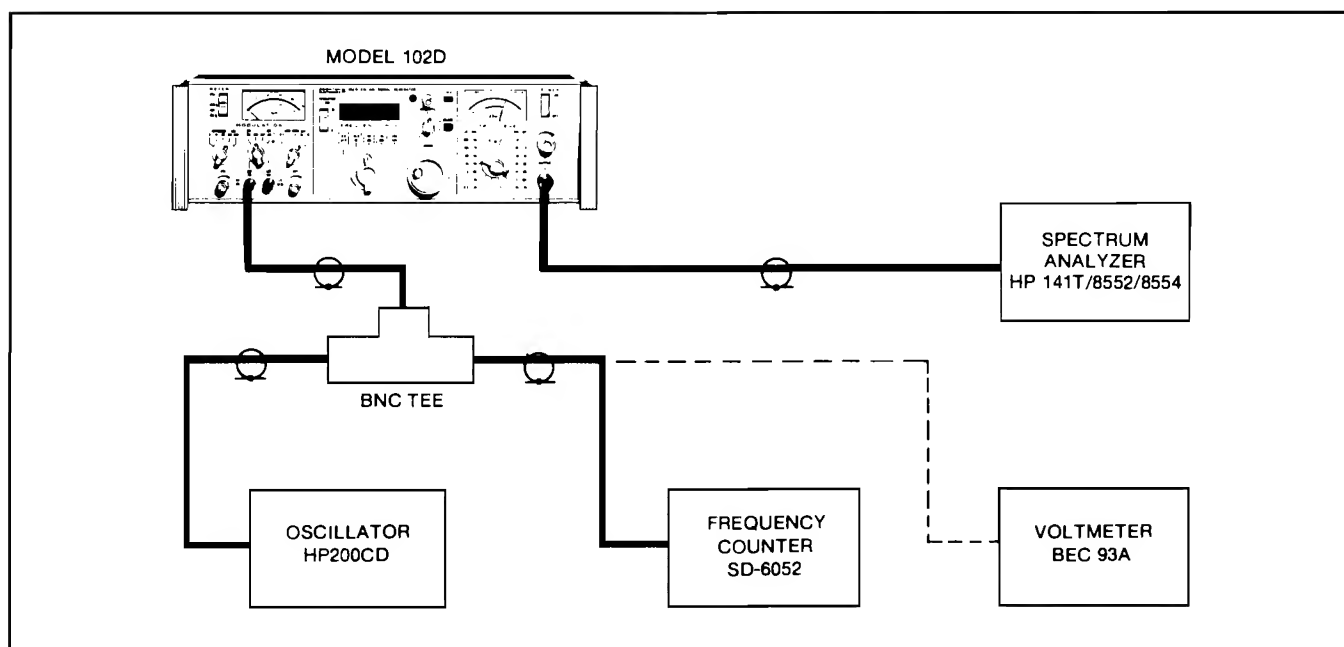

Figure 2-19 FM Sensitivity Check, Test Setup
1. Connect the Model 102D and test equipment as shown in Figure 2-19.